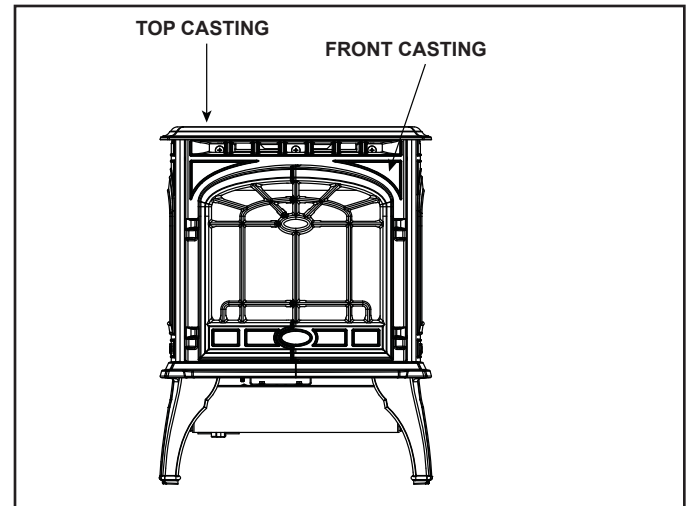

Figure 4.1 Remove Casting
- Remove front casting by grasping it at the top and lifting up. See Figure 4.1. Set front casting aside on prepared work surface.